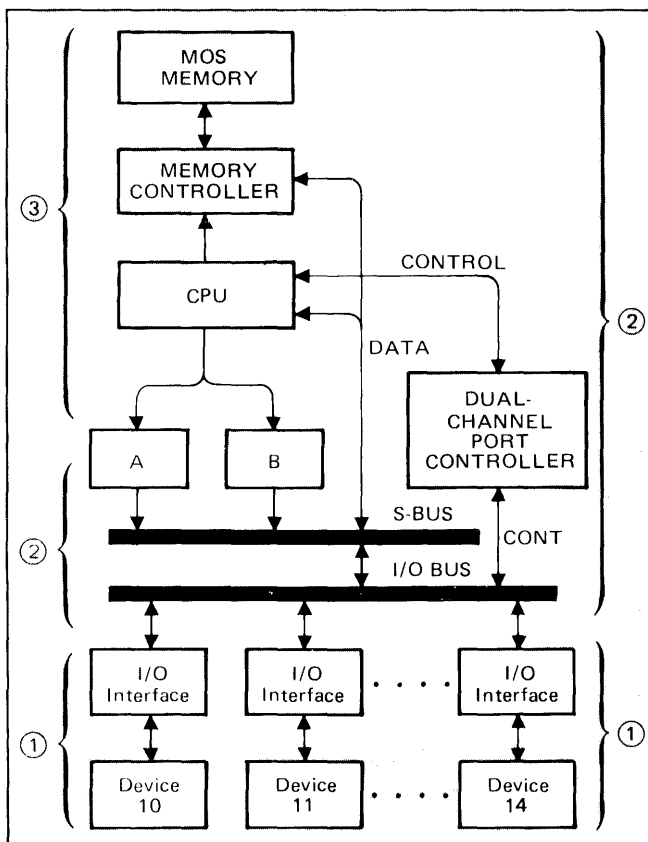

Figure 4-1. Input/Output System
The purpose of the input/output system is to transfer data between the computer and external devices. As shown in figure 4-1, data is normally transferred through the A- or B-register. An input transfer of this type occurs in three distinct steps: (1) between the external device and its interface PCA in the computer, (2) between the interface PCA and the A- or B-register via the I/O bus and CPU, and (3) between the A- or B-register and memory via the S-bus and memory controller. This three-step process also applies to an output transfer except in reverse order. This type of transfer, which is executed under program control, allows the computer logic to manipulate the data during the transfer process.
Also shown in figure 4-1, data may be transferred automatically under control of the Dual-Channel Port Controller (DCPC) option. Once the DCPC has been initialized, no programming is involved and the transfer is reduced to a two-step process: (1) between the external device and its interface PCA in the computer and (2) between the interface PCA and memory via the I/O bus, S-bus, and memory controller. The two DCPC channels are assignable to operate with any two device interface PCA's.